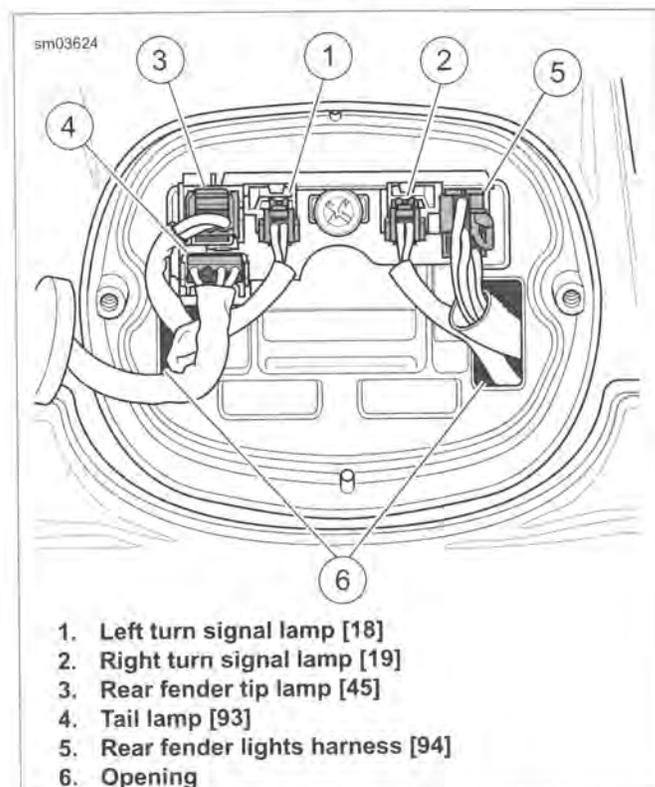
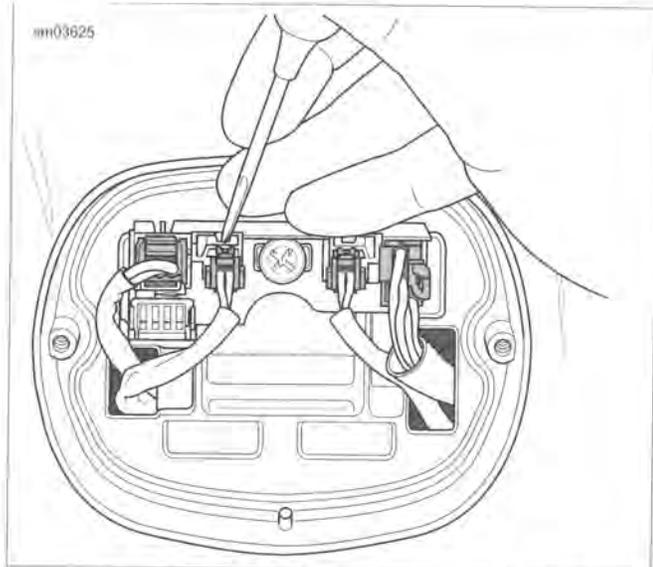

Figure 7-18. Rear Fender Lights Assembly
Figure 7-19. Use Pick Tool to Release Left Turn Signal Lamp Socket
2. See Figure 7-18 and Figure 7-19. Disconnect all connectors.
See Figure 7-19. To release turn signal lamp connectors, use a pick or small screwdriver to press latch.
1. See Figure 7-18. Feed connectors through openings in chrome base. For best results, feed the larger socket housings first.
3. See Figure 7-18. Disconnect connector (5) and feed through opening to inboard side of fender.
8. Capture harness in channel of stud plate (2). If loosened, tighten flange nuts to 60-96 **in-lbs** (6.8-10.9 Nm).
9. Feed rear harness connectors through openings in fender and capture turn signal lamp wires in cable clips (3). On FLHTC/U, FLHTK models, capture rear fender tip lamp wire in stamped fender clip (4).
10. See Figure 7-18. Mate tail lamp connectors (3, 4) to tail lamp base.